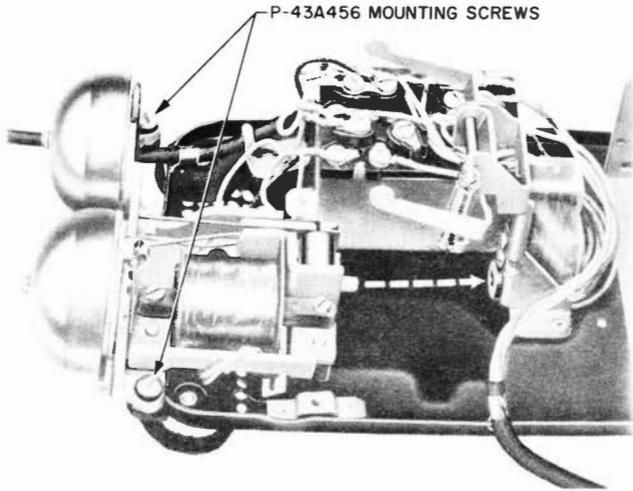

Fig. 33 - 500-type Desk Set, Ringer Assembly
4.07 Two mounting screws with lockwashers hold the ringer on base of set (see Fig. 33)